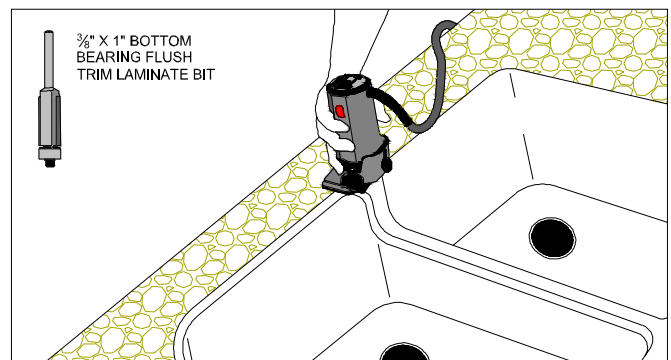

Figure 12B
- Adjust the laminate tilt-base trim router with a $\frac{3}{8}$ " bottom bearing flush trim bit. (FIG. 12B)
- Route around the inside of the sink. (FIG. 12B)